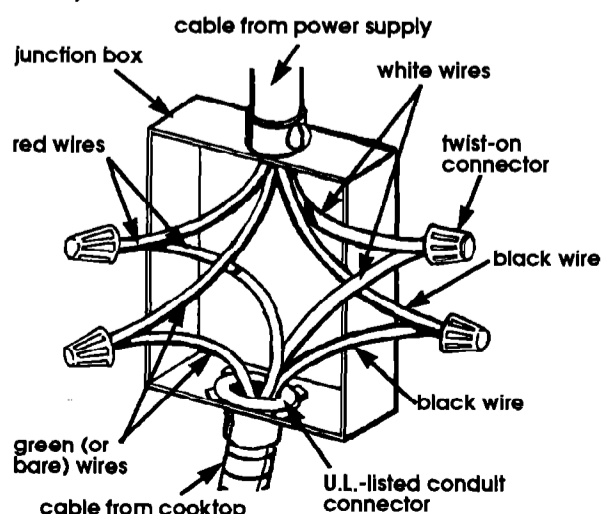

Figure 4
3. Separate the white wire from the green (or bare) wire that extends out the end of the appliance cable. (See figure 4.)